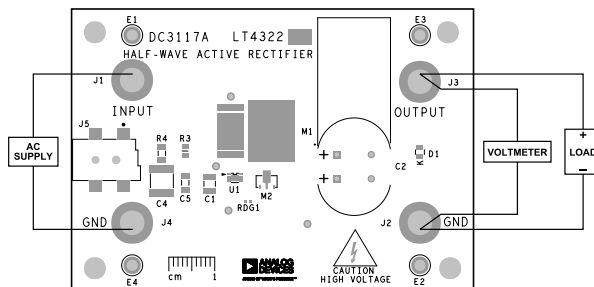

Figure 2. Measurement Equipment Setup
1. Connect an AC power supply to input and GND, as shown in Figure 2. Make sure that the output voltage of the supply is within the input voltage range of the DC3117A, as shown in Table 1. Verify that shorting resistor R1 has been removed before exceeding  $20V_{AC(RMS)}$ . Take care not to exceed 24V or 5A when using the barrel jack (J5). Use the turrets (E1 to E4) and banana jacks (J1 to J4) in all valid current/voltage ranges.
2. Connect a load and voltmeter across output and GND, as shown in Figure 2. Turn down the load current to zero. Put the voltmeter in DC volt measurement mode.